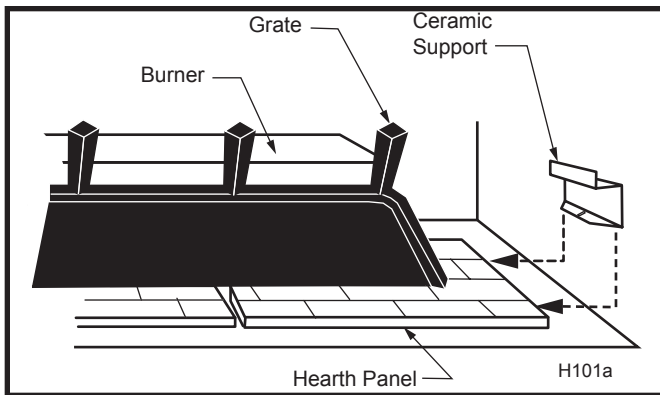

Fig. 35 Ceramic support.
2. Insert supports under ceramic hearth panels. (Fig. 35)